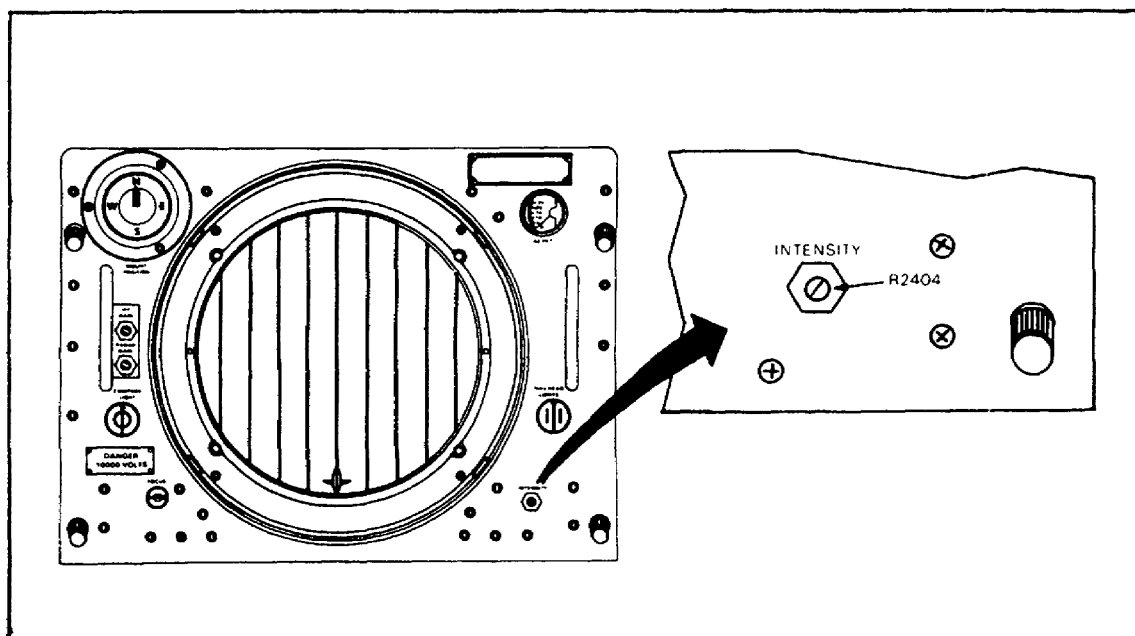

Figure 34. Indicator azimuth-elevation-range IP-800/FPN-40
k. Locate the INTENSITY control R-2404 on indicator, azimuth-elevation-range IP-800/FPN-40. (See Figure 34.)
- _____ INTENSITY control R2404 (Figure 34)